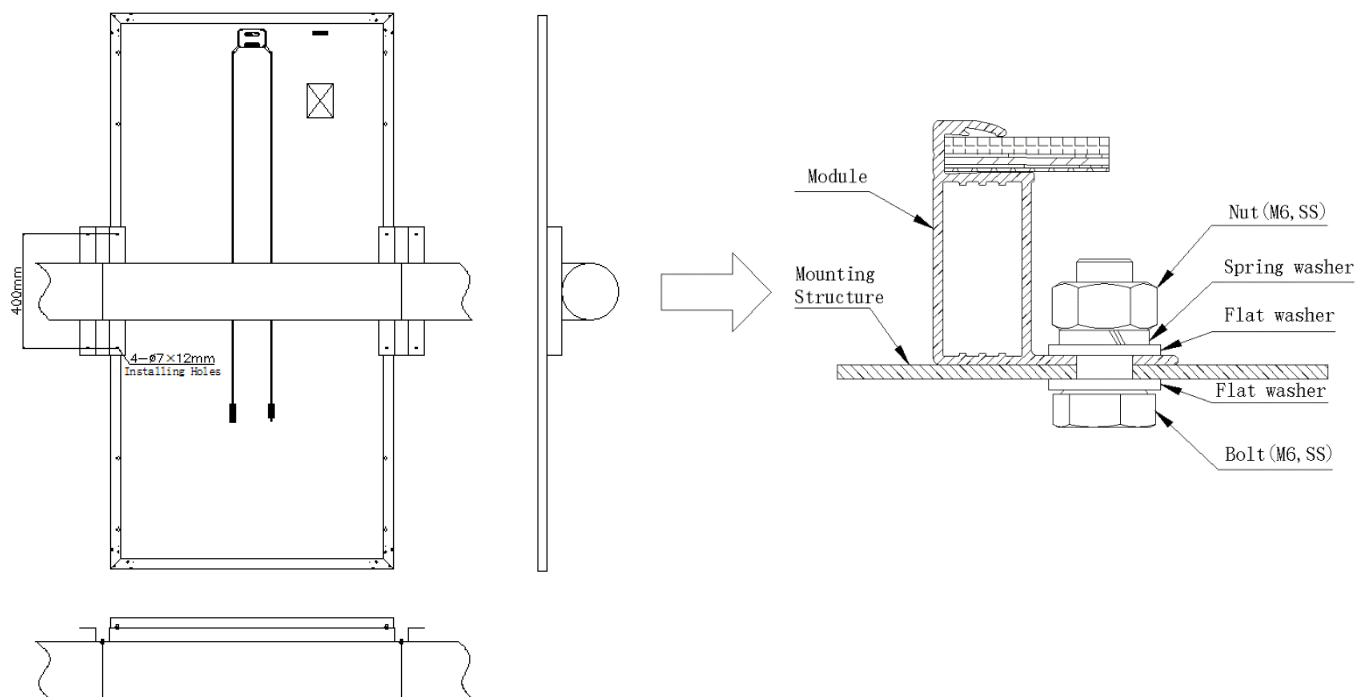

Figure 7
2. The frame of each module has 4- $\phi 7 \times 12\text{mm}$  mounting holes with specific location shown in Figure 7.
3. Secure the module in each fixing location with an M6 bolt, two flat washers, a spring washer and nut as shown in Figure 7, torque: 9~12 N.m.